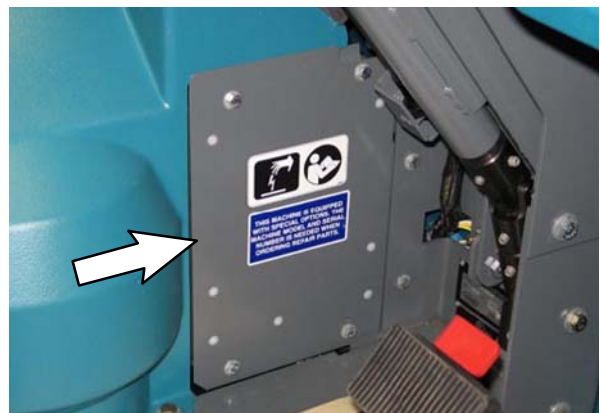
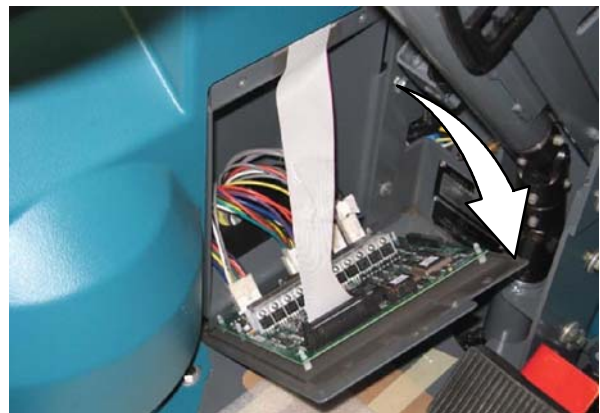

FIG. 2
FIG. 3
1. Remove the hardware holding the circuit board assembly in the operator compartment and carefully pull the circuit board assembly from the operator compartment. Set the hardware aside. (Fig. 2 / Fig. 3)
9. Reinstall the circuit board assembly into the operator compartment. (Fig. 2)